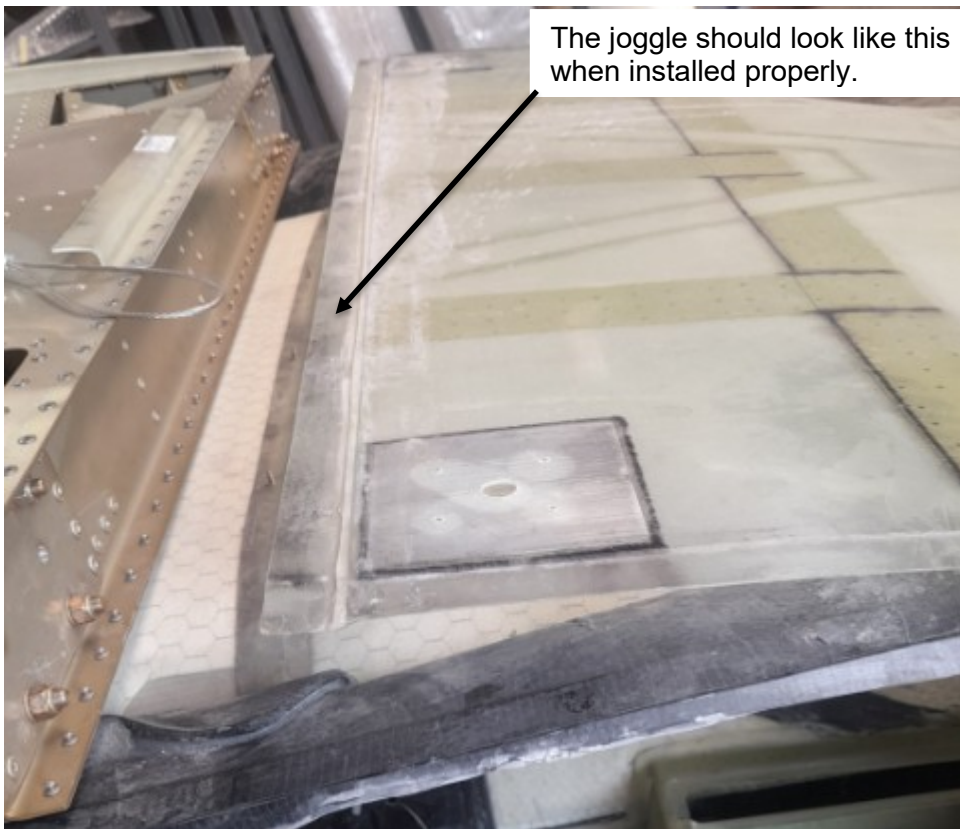

Figure 15: The joggle should look like this when installed properly.
- Step 3: Bond the removable composite securing strip on to the rear roof panel. The half width of the removable composite securing strip of (30mm) is to be bonded underneath the rear roof panel and the other half should overlap to make a joggle as shown in Figure 14 & Figure 15.